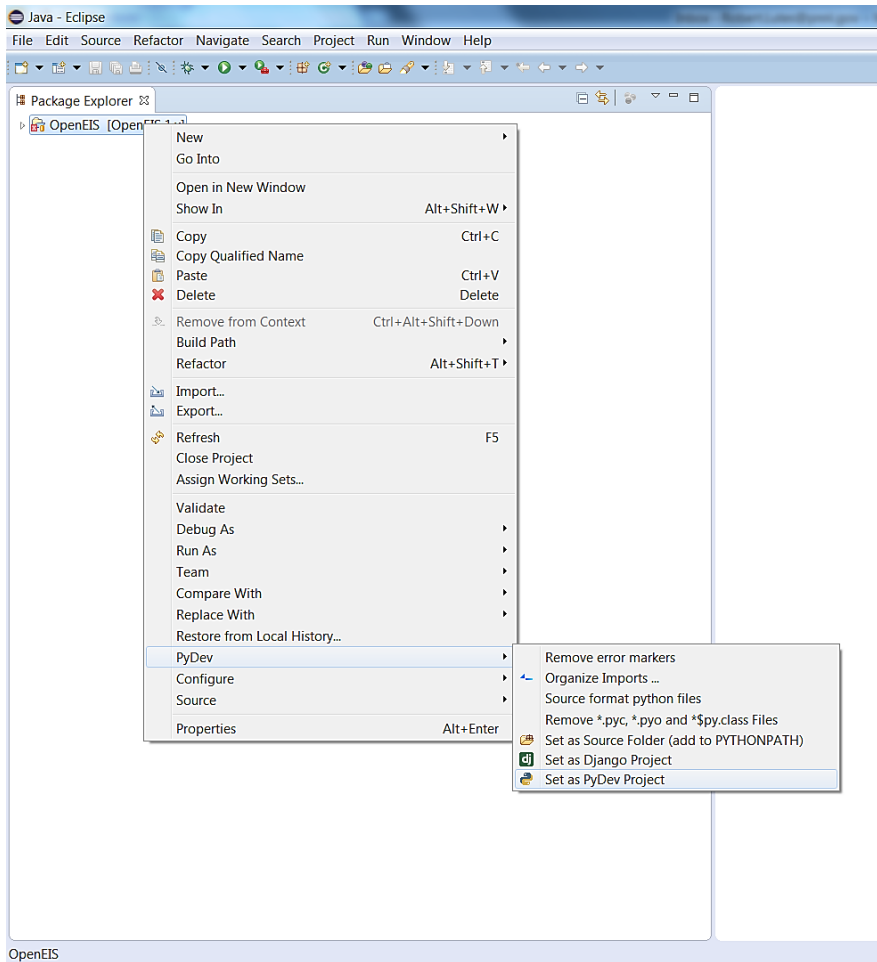

Figure 25: Configuring PyDev
- In the Project/Package Explorer view on the left, right-click on the project, PyDev-> Set as PyDev Project (Figure 25)